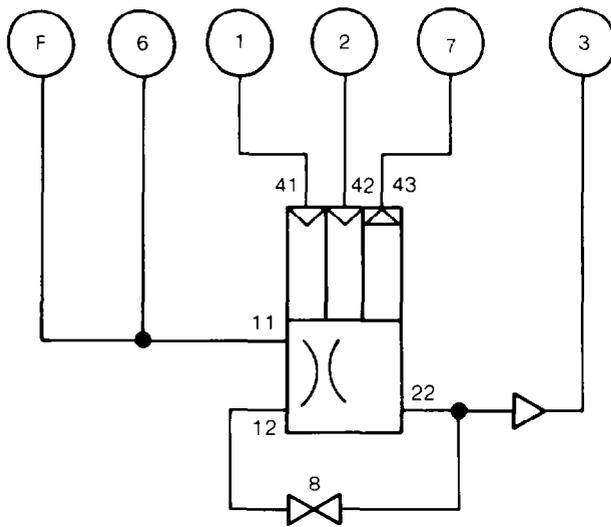

Figure 99 Test Connections
- (1) a control cock (8) (Wabco 452-002-114-0), and
- (2) a 1.3 mm nozzle.
- c. Connect the valve to the test rig as shown in Fig 99.